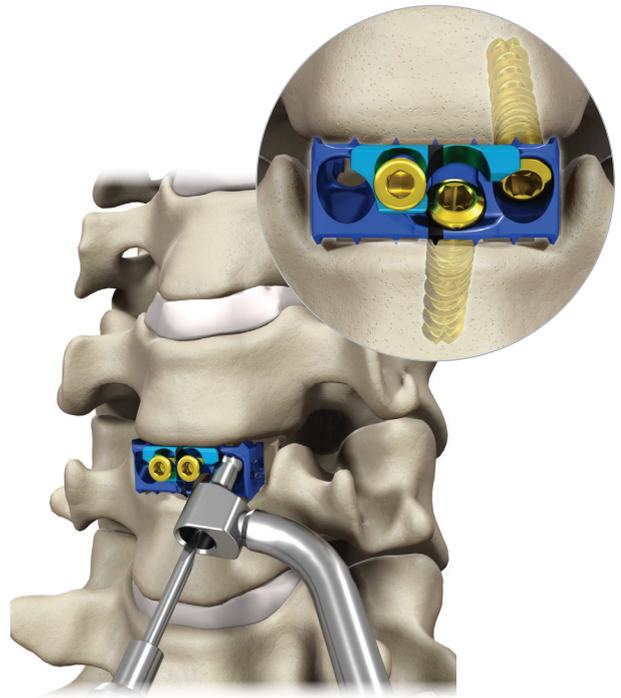

Figure 41
- Repeat these steps for the lateral screws, using the same "drill-and-fill" technique (Figure 41).